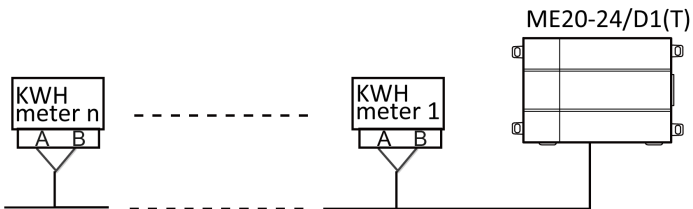

Fig 8.3 Communication connection of controller and KWH meter
Step 1: Connect the RS485-1 communication interface A+ and B- port of the smart controller to the A and B port of KWH meter; Step 2: Conduct serial connection with communication cord 485 for the KWH meter in a Intelligent Remote Eudemon System, as is shown in Fig 8.3.